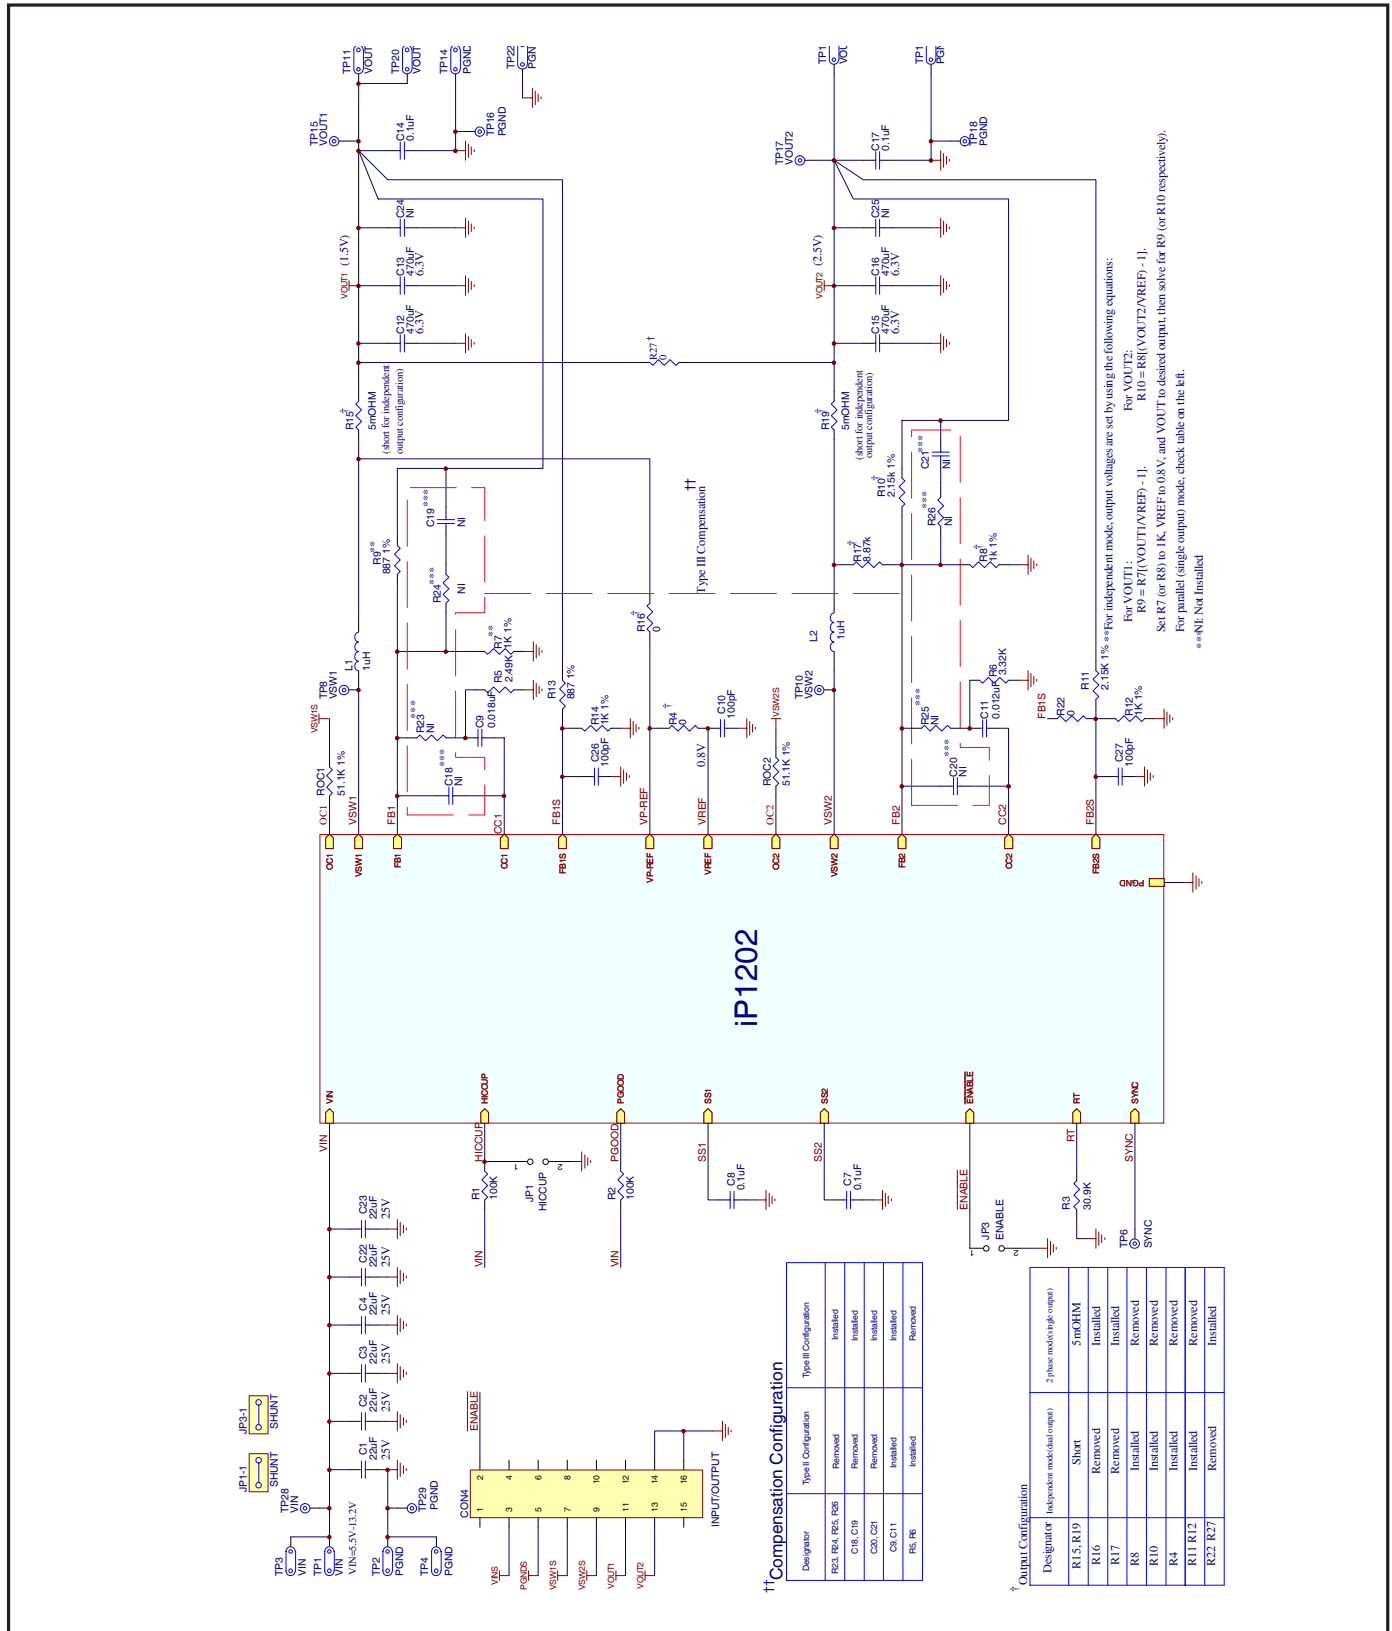

Fig. 32: Reference Design Schematic
1. Follow the layout scheme presented in Fig. 32. Make sure that the output inductors L1 and L2 are placed as close to iP1202 as possible to prevent noise propagation that can be caused by switching of power at the switching node V_{sw} , to sensitive circuits.